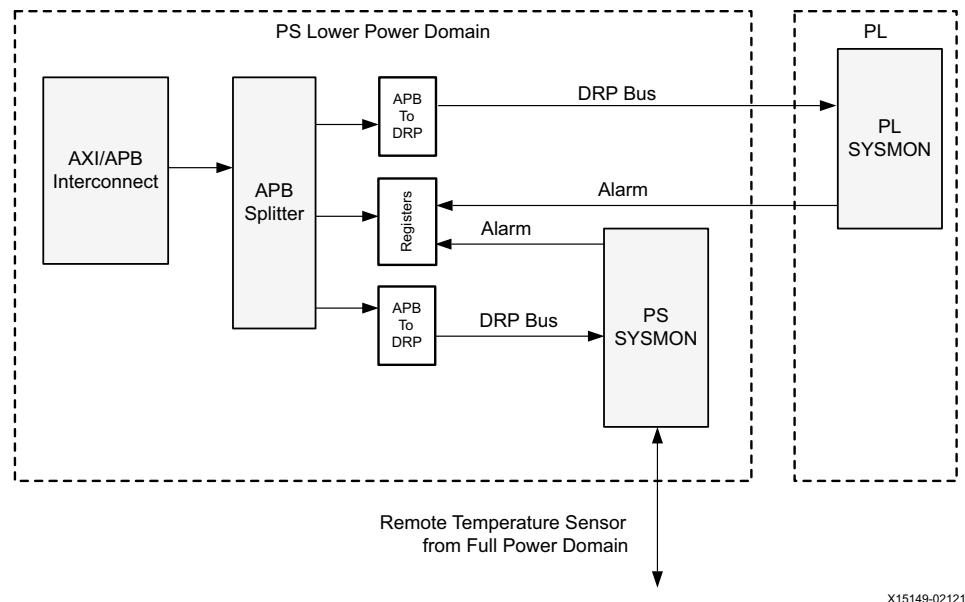

Figure 8-8: System Monitor Block
You can, for instance, use the SYSMON block register interface to configure the block and provide the capability to monitor on-chip voltages as well as junction temperature. The SYSMON block also has built-in alarm generation logic that is used to interrupt the processor based on certain alarm conditions. For example, it can shut the system down based on an over-temperature (OT) alarm generation. Figure 8-8 illustrates the SYSMON blocks found in the Zynq UltraScale+ device.